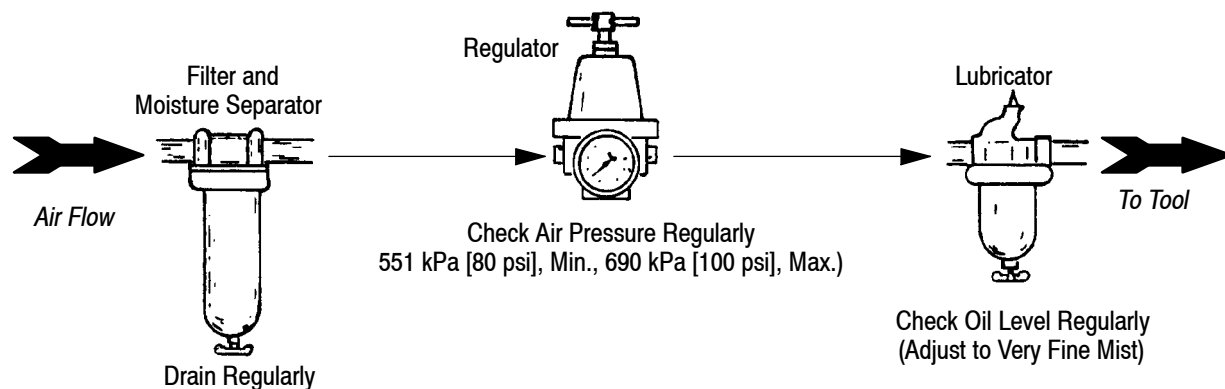

Figure 3
3. Install air line filter, air pressure regulator, and lubricator (supplied by the customer) between the air supply and hose, as shown in Figure 3. The assembly must be as close as possible to the machine. Fill the air line lubricator with a good grade line lubricant (as recommended by the filter manufacturer). When machine is not in use, the air supply should be turned "OFF".